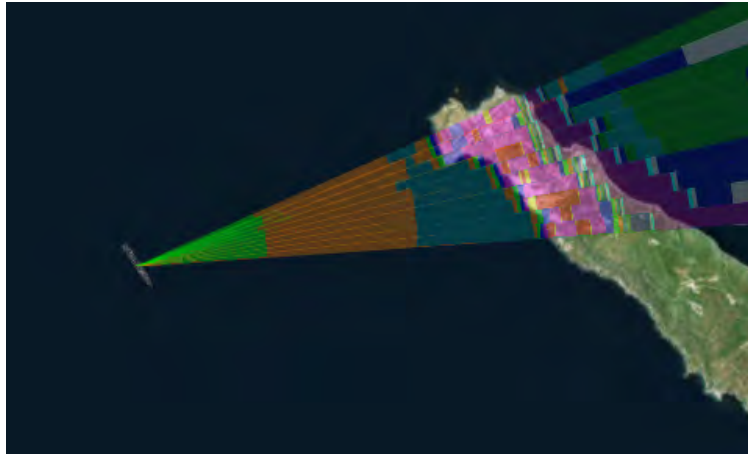

Figure 5.83: 3D Texture using Gradient color
10. Change the **Colors** under the **Color Settings** from **Above and Below** to **Gradient**. The different colors displayed is the ratio of the clutter-power to the noise-level, shown in Figure 5.83.